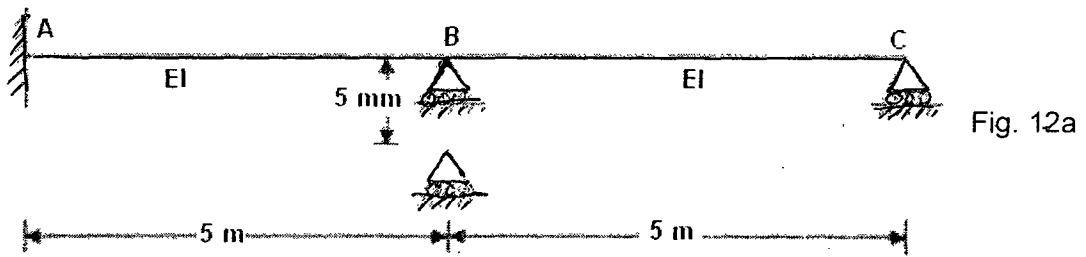

Fig. 12a
12. a) Calculate the support reactions in the continuous beam having constant flexural rigidity EI throughout, due to vertical settlement of the support B by 5 mm as shown in the Fig.12a. Given $E=200\text{ GPa}$ and $I=4.0 \times 10^{-4}\text{ m}^4$.